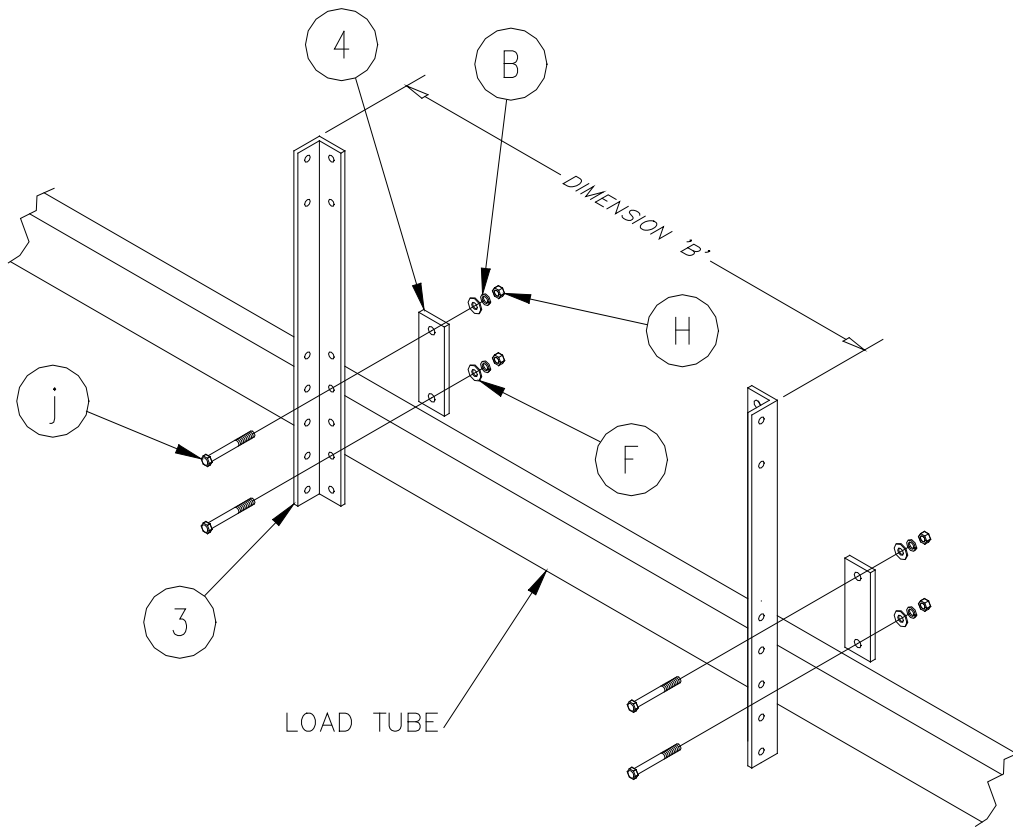

Figure 2-6.
5. **Refer to Figure 2-6.** Fasten the each guide-on mounting angle to the load tubes using two 3/8-16 HHCS bolts (A), two flat washers (F) , two split-lock washers (B), and two aluminum hex nuts (H) supplied. Aluminum nuts have been provided to prevent hardware “gall, lock up, or seize” during assembly.